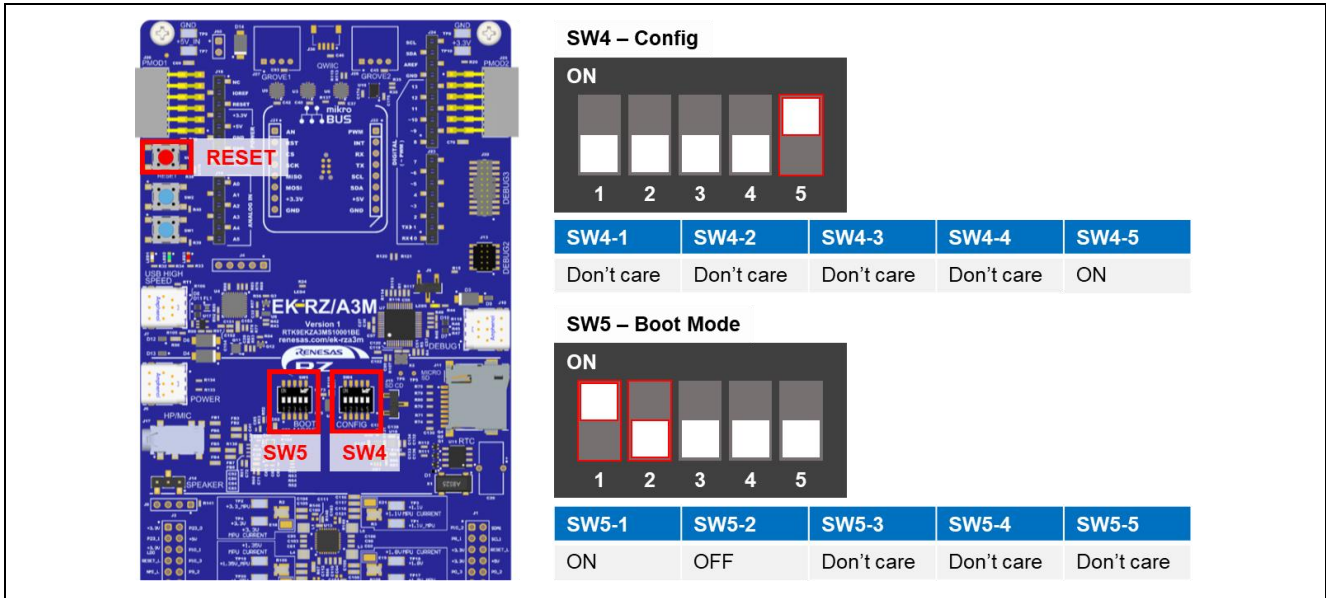

Figure 3.2 Setting of SW4,5
- Set the SW4,5 of EK-RZ/A3M according to Figure 3.2. For more information about the switch settings, see **4.3.4 Board Configuration Switch Settings** of EK-RZ/A3M User's Manual.